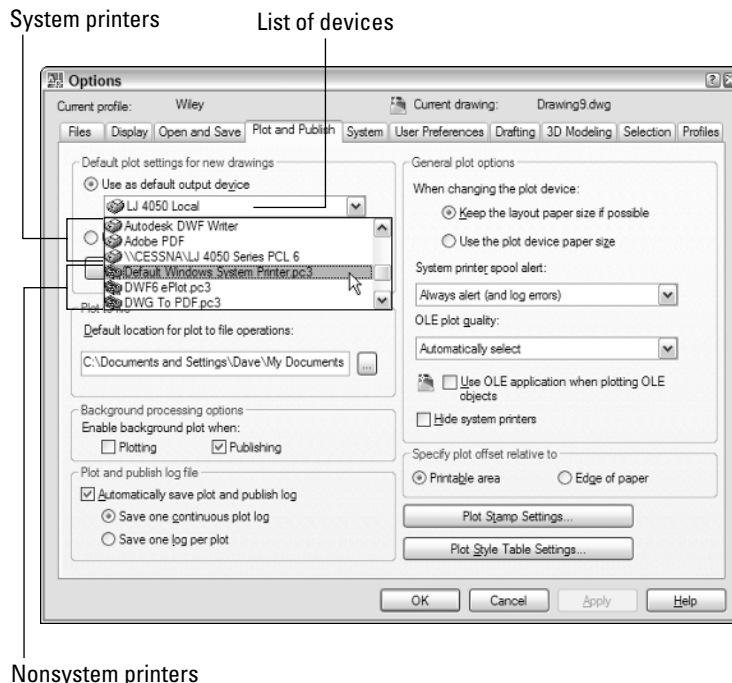

Figure 13-1:
3. **Click the drop-down arrow to view the list just below the Use As Default Output Device option, as shown in Figure 13-1.**